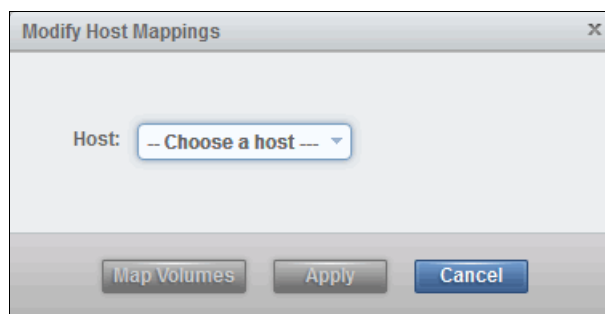

Figure 5-20 Selecting the I/O Group and host to assign the mappings to
1. After clicking **Continue**, the window shown in Figure 5-20 opens.